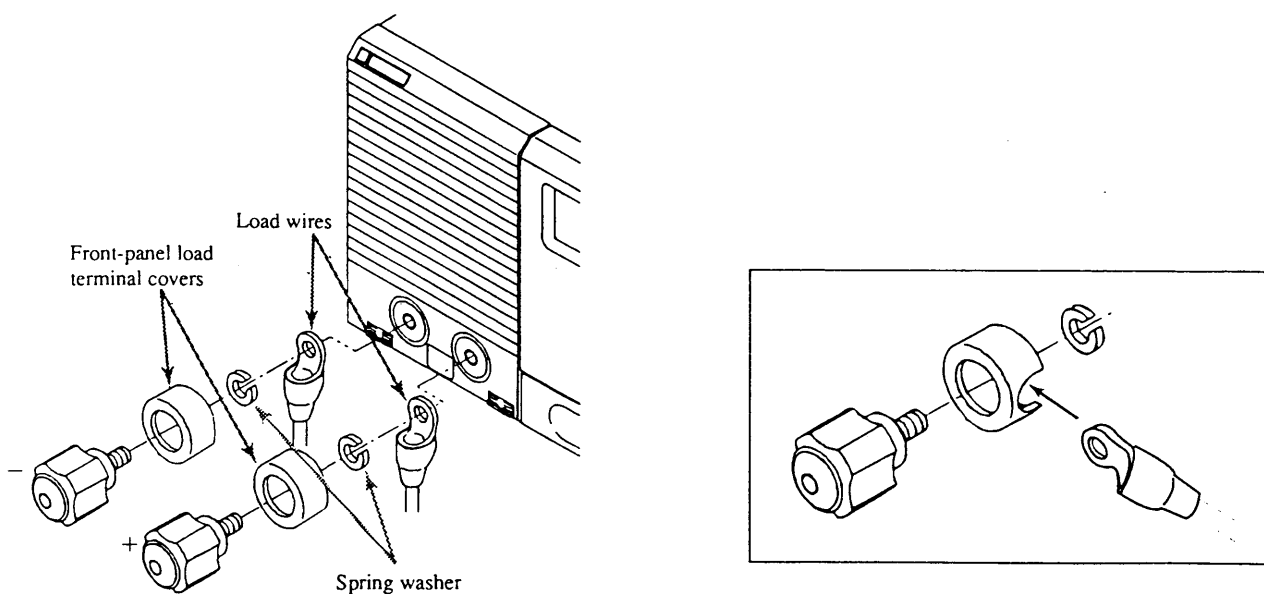

Figure 2.4-1
- 5) When connecting load wires to the load terminals on the PLZ153W or PLZ303W front panel, put the front-panel load terminal covers hiding crimped terminals of the load wires. (See Figure 2.4-1.)